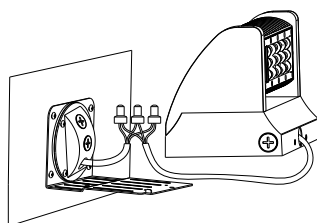

Figure 3-5
5. Make wiring connection and go through isolation treatment. (Figure 3-5)